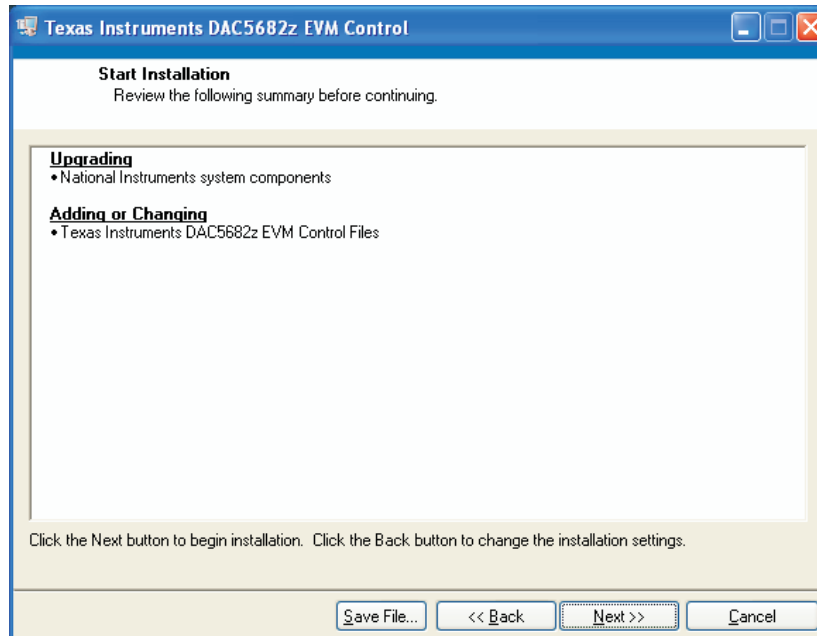

Figure 8. Start Installation
4. Click *Next* (Figure 8) to start the installation.